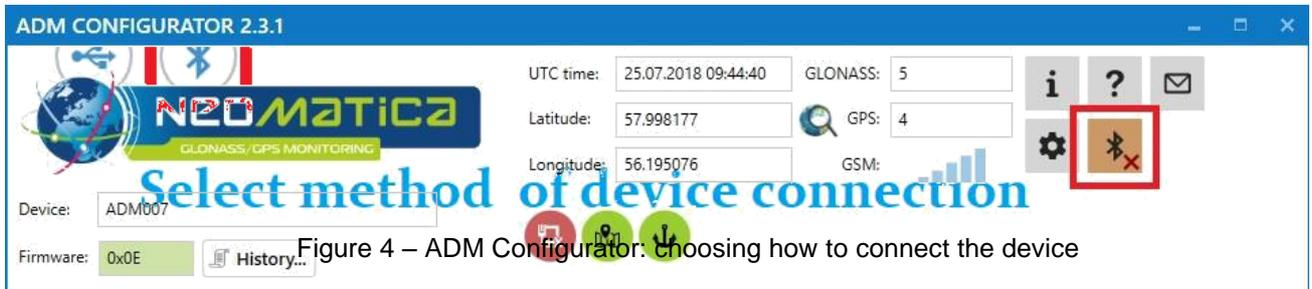

Figure 4 – ADM Configurator: choosing how to connect the device
- 3) Turn the configurator to the Bluetooth radio connection mode. To do this, you need to select the way to connect the device by clicking on the Bluetooth icon in the upper left corner of the configurator, as shown in Figure 4;